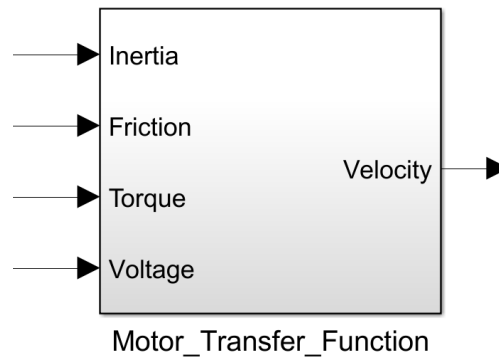
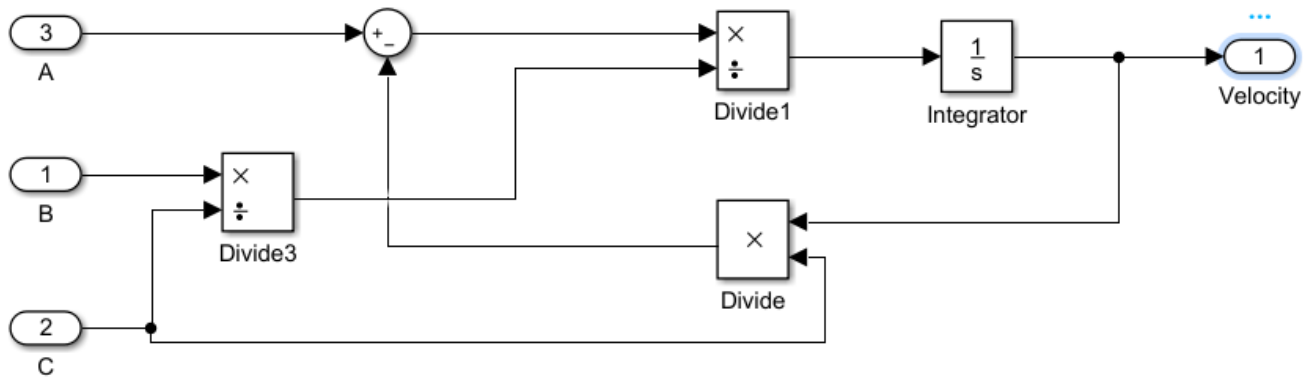

Figure 7.4: Example motor transfer function subsystem interface.
Figure 7.5: Example motor transfer function subsystem contents.
- See Figures 7.4 and 7.5 for examples of what the interface and contents of the subsystem should resemble. (Figure 7.5 doesn't represent an actual transfer function. **Don't try to use it!**)